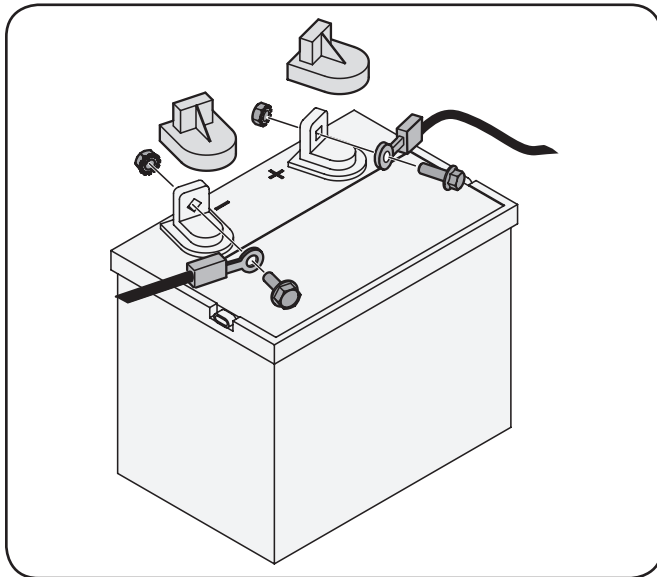

Figure 3-3
2. Pry the steering wheel cover/cap off the steering wheel and remove the hex screw and bell washer. See Fig. 3-3.
4. From the operator's seat, rotate the steering wheel so that the spokes of the wheel are in the basic 'T' position. Align the steering wheel and press the steering wheel onto the shaft. See Fig. 3-3.
1. Remove the plastic cover, if present, from the positive (+) battery terminal and attach the red cable to the positive (+) battery terminal with the bolt and hex nut. See Fig. 3-3.
2. Remove the plastic cover, if present, from the negative (-) battery terminal and attach the black cable to the negative (-) battery terminal with the bolt and hex nut. See Fig. 3-3.